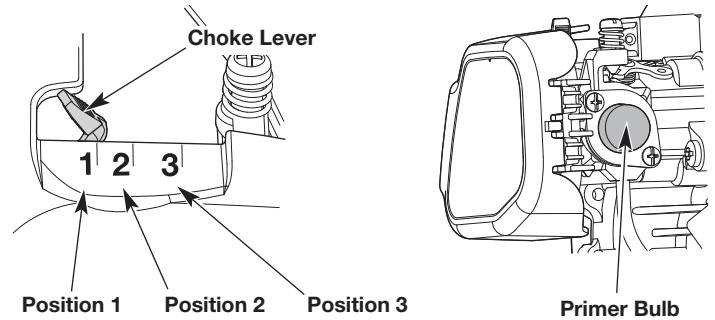

Fig. 7
3. Slowly press and release the primer bulb **10 times** (Fig. 7). If fuel cannot be seen in the primer bulb, press and release the primer bulb until fuel is visible.
4. Move the choke lever to **Position 1** (Fig. 7).
7. Continue to squeeze the throttle control. Move the choke lever to **Position 2** (Fig. 7).
10. Continue to squeeze the throttle control. Move the choke lever to **Position 3** (Fig. 7) and continue warming the engine for an additional 60 seconds. The unit may be used during this time.
IF... the engine hesitates, return the choke lever to **Position 2** (Fig. 7) and continue the warm-up.
8. Continue to squeeze the throttle control. Move the choke lever to **Position 2** (Fig. 7).
12. Continue to squeeze the throttle control. Move the choke lever to **Position 3** (Fig. 7) and continue warming the engine for an additional 60 seconds. The unit may be used during this time.